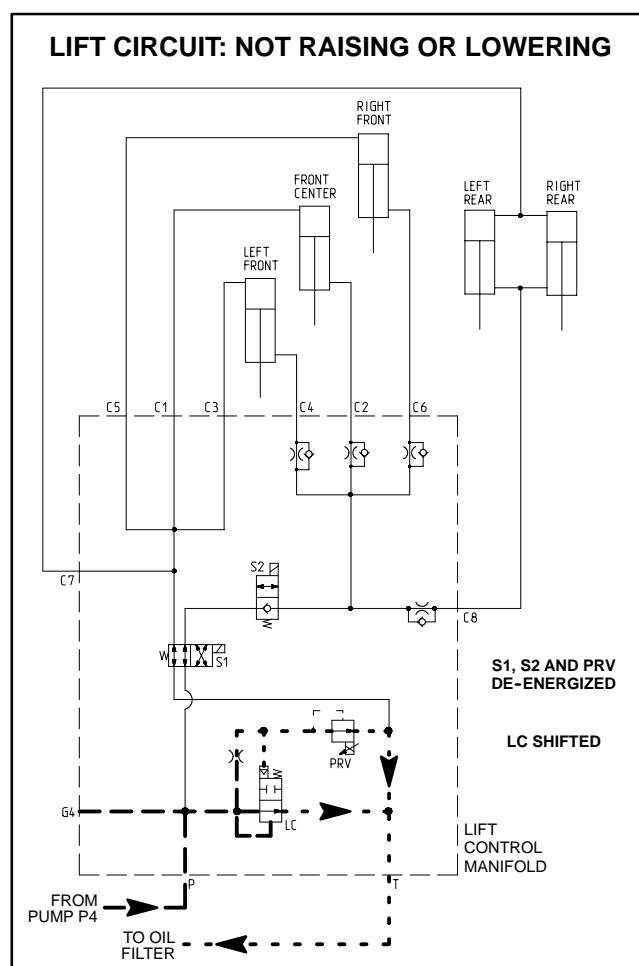

Figure 19
While operating the machine during conditions of not raising or lowering the cutting decks (joystick in the neutral (center) position) (Fig. 19), all of the lift manifold valves (S1, S2 and PRV) are de-energized. The de-energized relief valve (PRV) allows hydraulic flow to return to tank through the manifold. This flow causes a pressure differential that shifts the logic cartridge (LC) which allows pump flow to bypass the lift cylinders. Flow returns to the oil filter and then to the hydraulic reservoir.